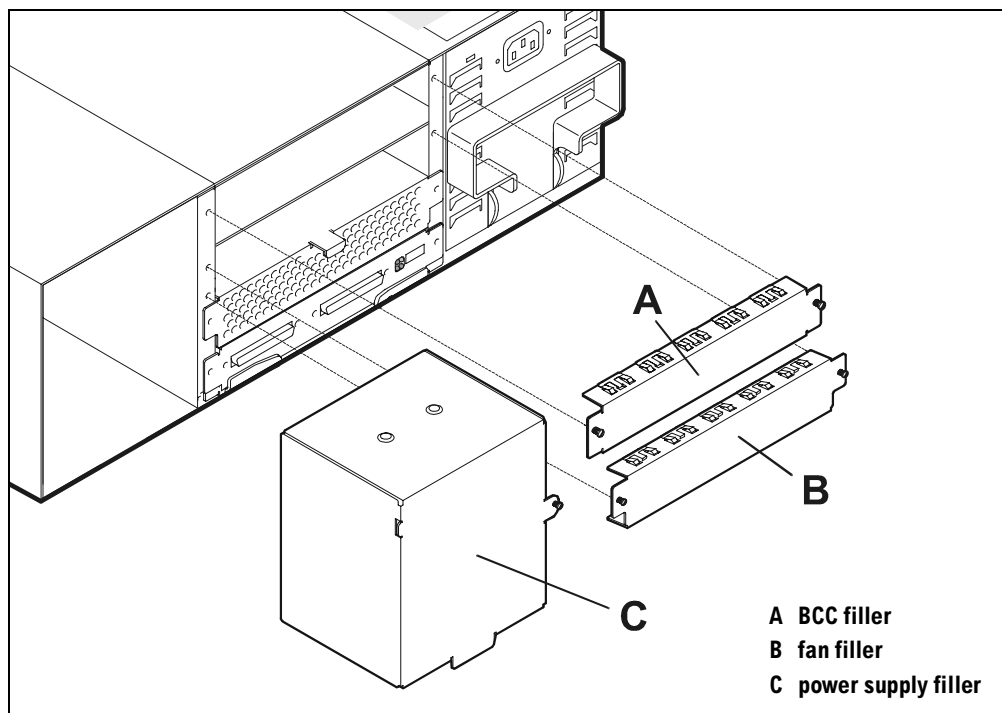

Figure 34 Installing Filler Panels
1. Align the screws on the BCC filler (A in Figure 34) with the holes at the right and left of the top slot. Properly oriented, the screws of the BCC filler are slightly above center. Insert the BCC filler in the slot.